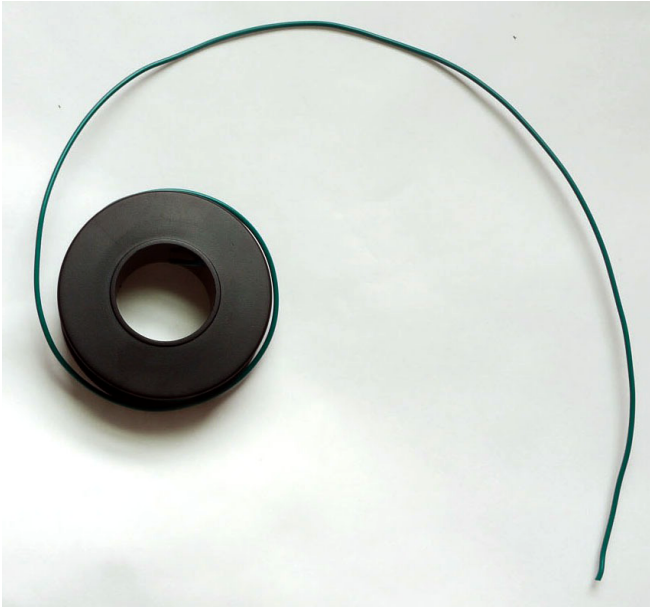

Figure 4-2. Solid core wire, used as the “antenna” for the EMI detector.
**Step 1** Cut a three-foot long piece of solid core wire (Figure 4-2).